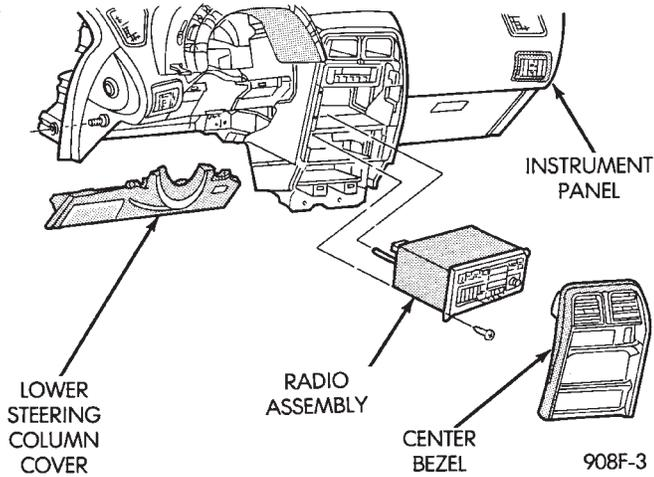

Fig. 5 Radio Assembly—AG and AJ Bodies
(1) Remove center instrument panel bezel by pulling toward the rear of the car (Fig. 5).
(2) Remove two screws attaching radio to console.
(3) Pull radio through front face of console, disconnect wiring harness, antenna lead, and ground strap.